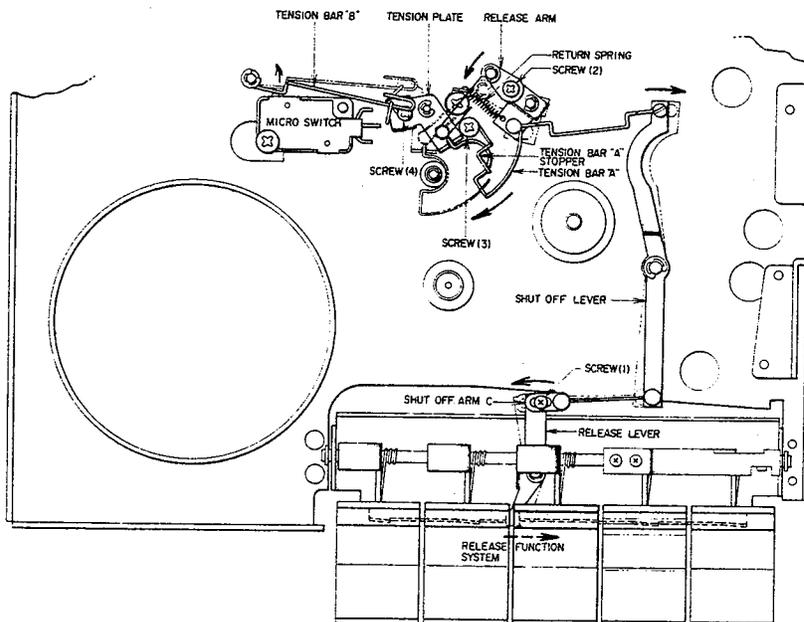

Fig. 9 Shut-off Mechanism
### (8) Shut-Off Mechanism Adjustment (Ref. Figs. 9, and 10)
Set Release Arm position and tighten Screw (2) so that when Play, Fast Forward, Rewind, or Record Key is depressed, Tension Bar "A" lowers to position indicated by the dotted lines in Fig. 9, and at stop mode, Tension Bar "A" contacts Tension Bar "A" Stopper.